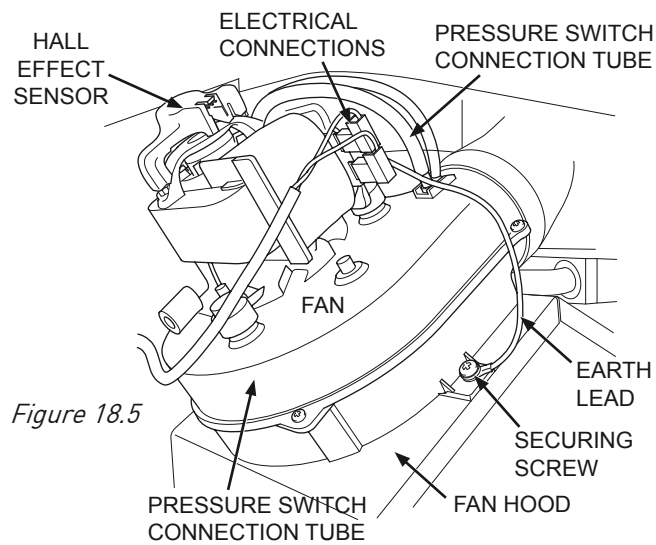

Figure 18.5
**18.7** Disconnect the electrical leads and air pressure switch connection tube from the fan, remove the fan screws and withdraw fan from fan hood with its 56° bend. (Figure 18.5)